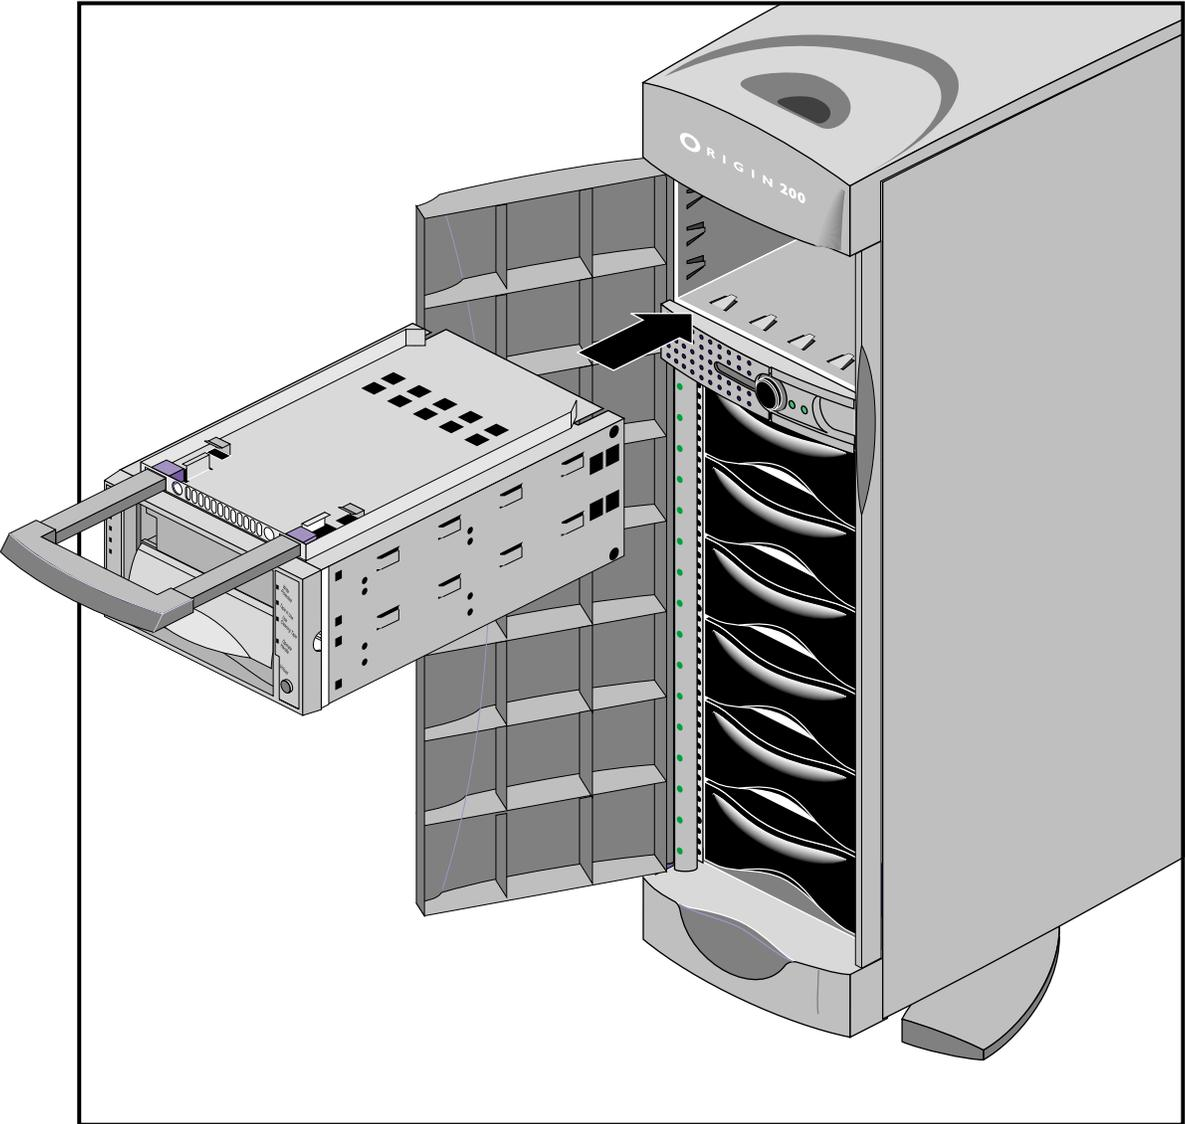

Figure 2-9 Installing the Peripheral Carrier and DLT Drive
2. Slide the DLT and carrier assembly into the bay until the SCSI and power connectors are fully engaged (see Figure 2-9).